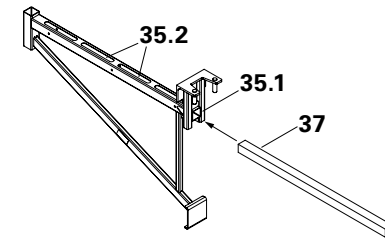

Fig. A7.03
1. Install the timber insert (37) (size 3.8 x 3.8 cm) into the scaffold bracket tube (35.1). (Fig. A7.03)
2. Nail the timber insert from side to secure with Scaffold Bracket HSA 80. → Length of the timber insert (37) = 88 cm.